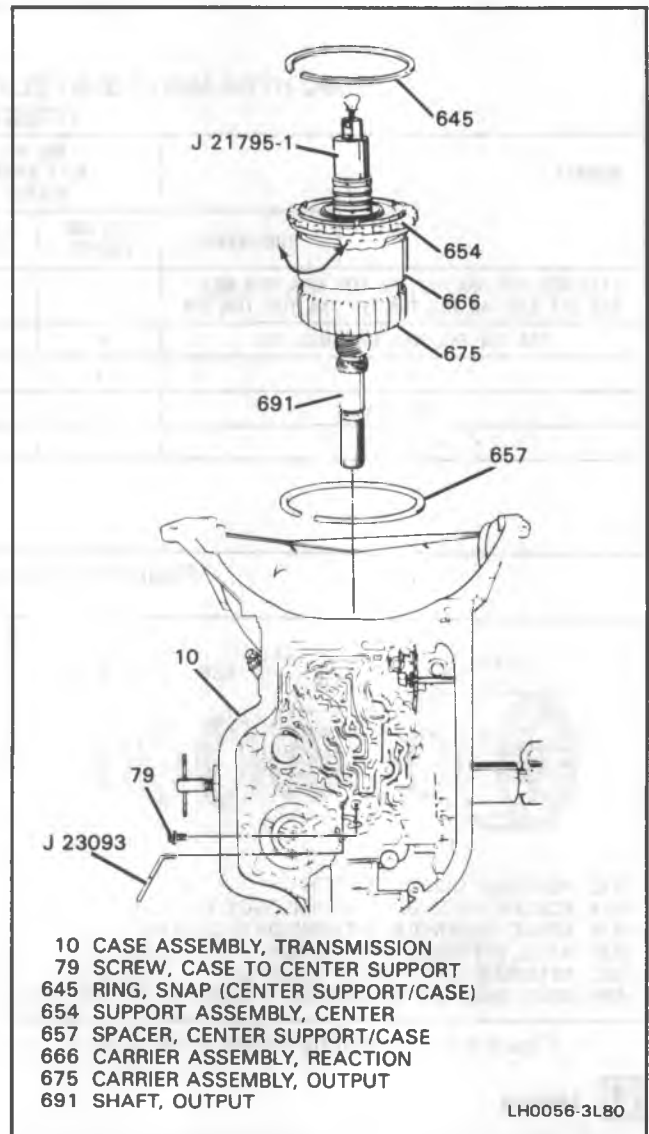

Figure 56 — Installing Center Support and Gear Unit Assembly
1. Spacer (657), if removed.
2. J 21795-02 to main shaft (681).
3. With transmission in a vertical position, align bolt hole in center support (654) with hole in case (10) and carefully lower into case.
4. Case to center support bolt (79), finger tight.
5. Snap ring (645).
6. Locate J 23093 into the center support (654) direct clutch passage through case (10). Apply pressure on J 23093, in direction of arrow (Figure 56), seating the center support splines counterclockwise against the case splines.
7. Torque bolt (79) to 30 N·m (22 lb. ft.)